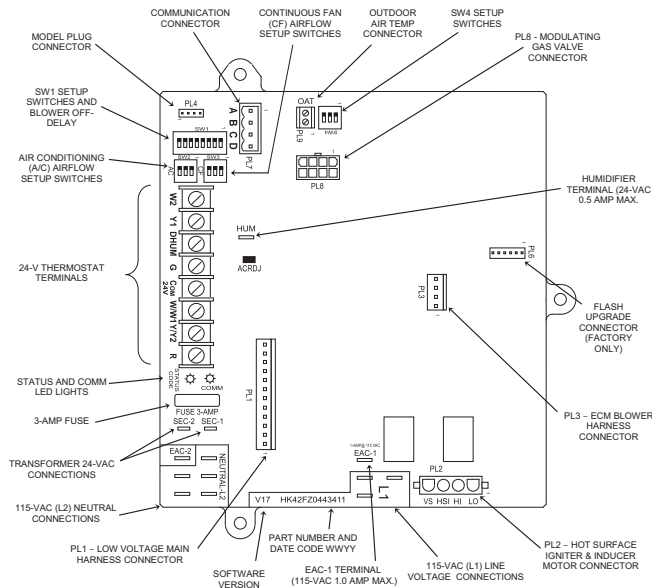

Fig. 23 – Example of Modulating Furnace Control for ECM Blower Motor L11F061
1. Turn Setup Switch SW1-2 on furnace control ON (see Fig. 23).